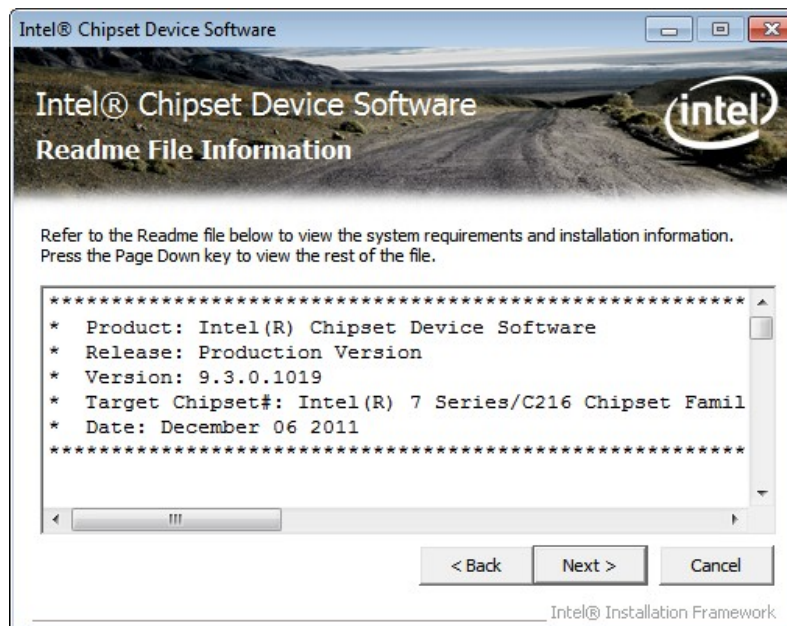

Figure 6-5: Chipset Driver Read Me File
Step 8: The **Read Me** file in **Figure 6-5** appears.